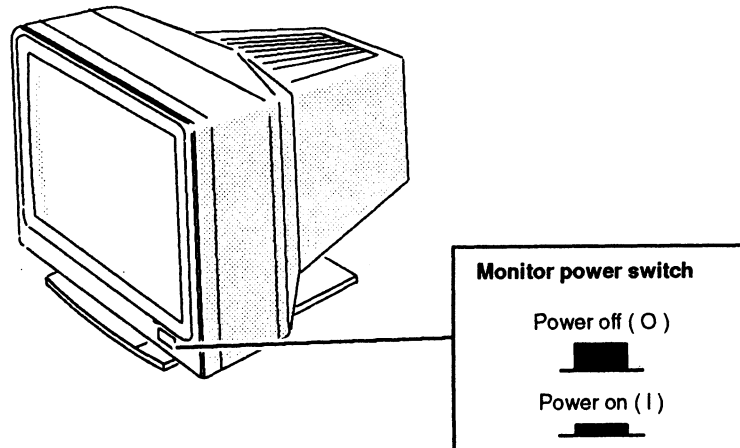

Figure D-1 Monitor Power Switch
1. Turn on power to the system console. For graphics workstations, turn on power to the display monitor, as shown in Figure D-1.